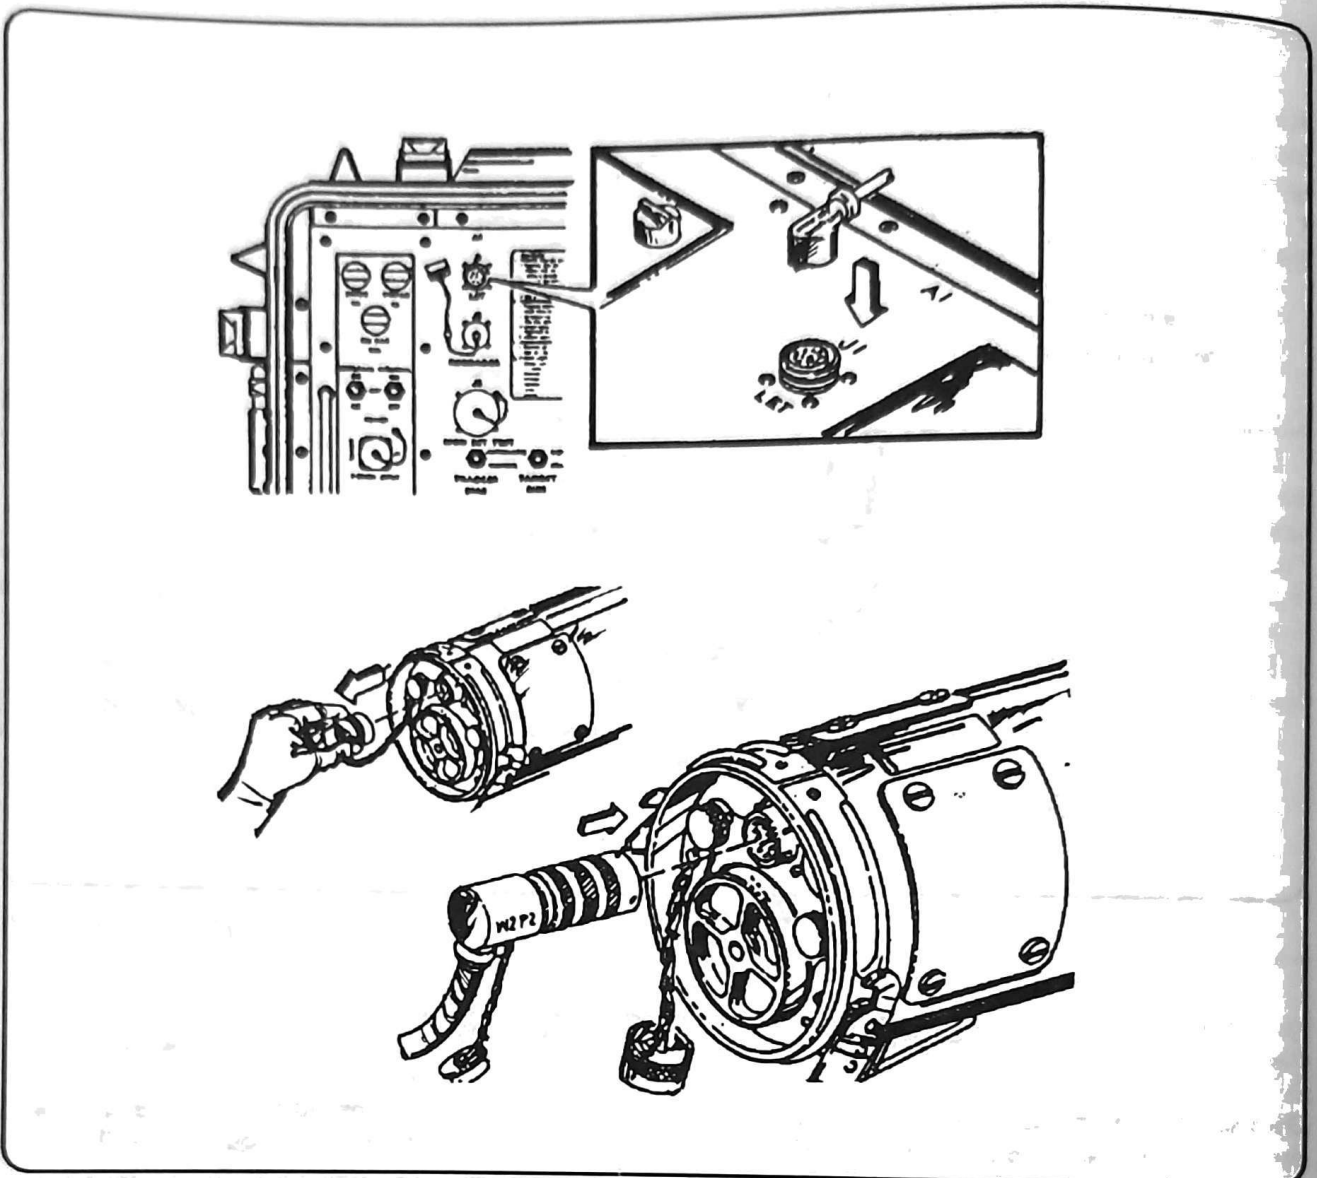

Figure 6-11. Mating the W2 cable assembly to the monitoring set and LET.
3. Mate the W2 cable assembly to the monitoring set and LET IAW TM 9-6920-484-12. (See Figure 6-11.)